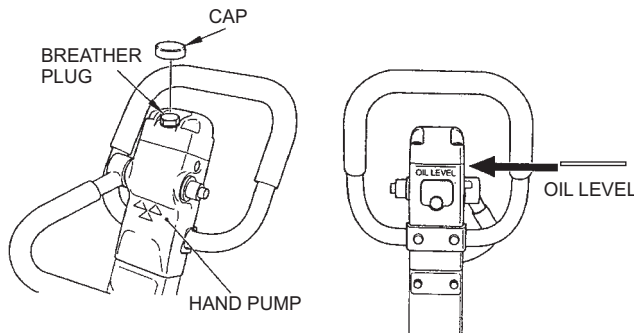

Figure 6. Vibrator Oil Gauge
1. With handle bar positioned vertically (storage position), remove the breather cap (Figure 6) from the breather plug.
2. Use a 24 mm wrench and remove breather plug (Figure 6). Visually check to see if hydraulic oil comes up to the oil level line that is etched on the back side of the handle.